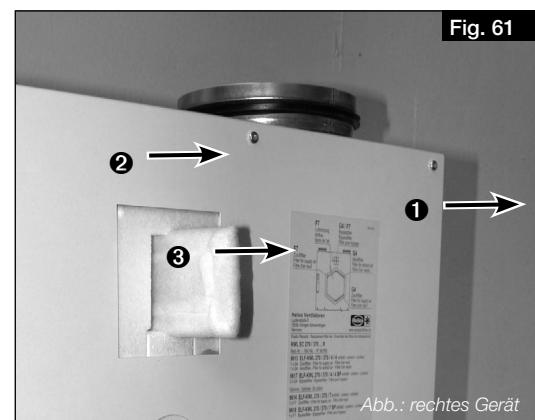

Fig. 61
2. Pull intake air filter **1** to the front and replace (see Fig. 61).
3. Pull extract air filter **2** (incl. frame) to the front and replace (see Fig. 61).
4. Optional: Pull fine/pollen filter (ePM1 50 %) **3** incl. frame to the front and replace (see Fig. 61).
① **Confirm via the easyControls 3.0 software or KWL-BE Touch.**